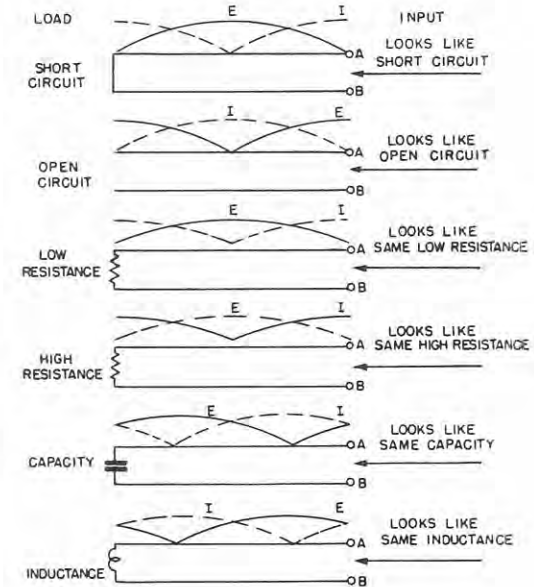

FIG. 5 LOAD REPETITION BY A HALF WAVE SECTION
- (2) A half-wave section repeats the load. A half-wave section may be looked upon as being made up of two quarter-wave sections, so that the load is inverted by the first quarter-wave section and re-inverted to the original by the second quarter-wave sections. (See Fig. 5).